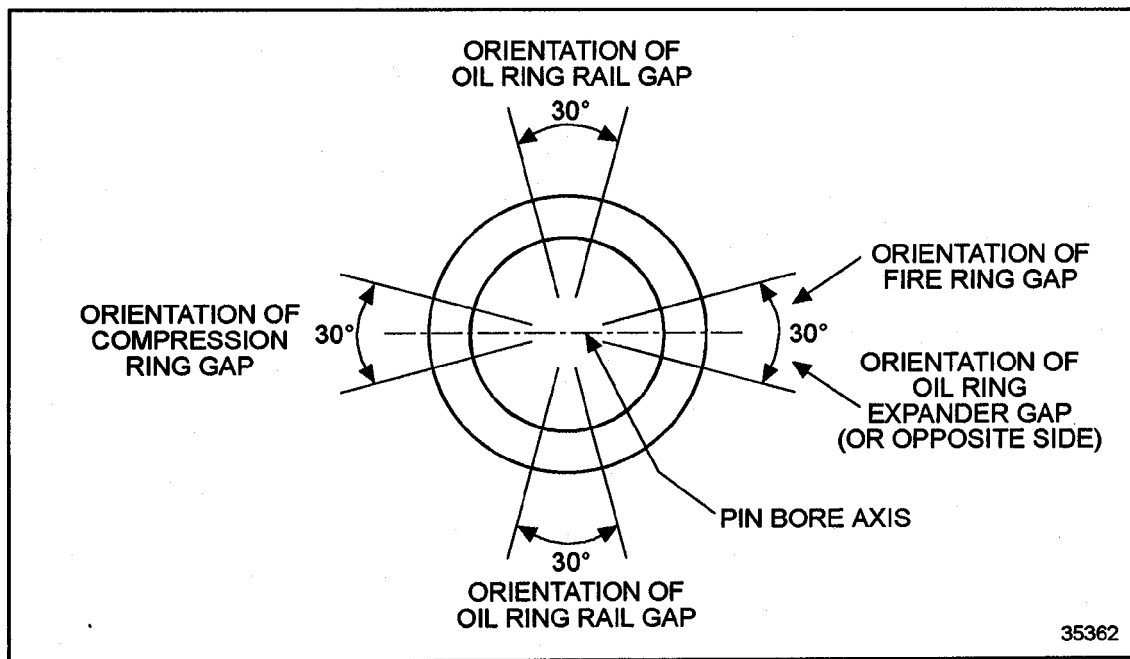

Figure 1-252 Installation of Compression Ring with J 22405-02
1. Install the compression ring (rectangular cut shape) in the second groove of the piston, using tool J 22405-02. See Figure 1-252.